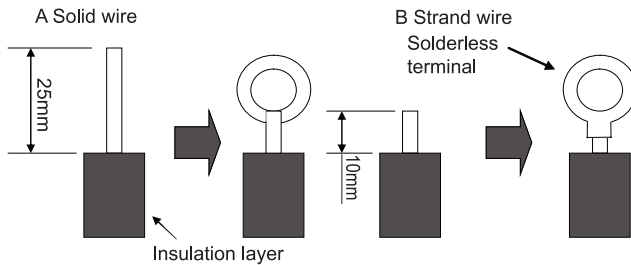

Fig.27
(1) For solid core wiring (Fig.27)
(2) For strand wiring (Fig.27)